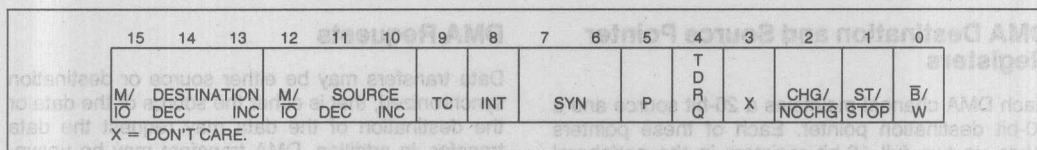

Figure 17. DMA Control Register
16-bit Transfer Count Register, and a 16-bit Control Word. The format of the DMA Control Blocks is shown in Table 13. The Transfer Count Register (TC) specifies the number of DMA transfers to be performed. Up to 64K byte or word transfers can be performed with automatic termination. The Control Word defines the channel's operation (see Figure 17). All registers may be modified or altered during any DMA activity. Any changes made to these registers will be reflected immediately in DMA operation.